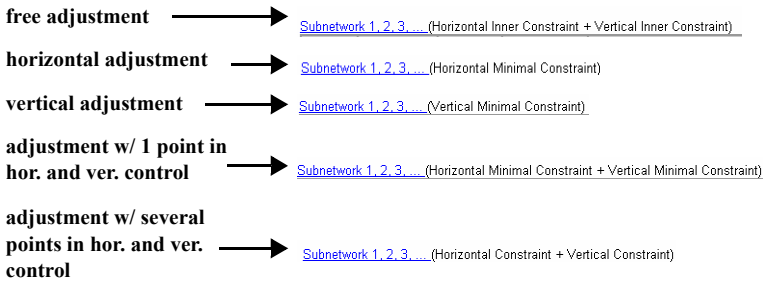

Figure 6-27. Types of Network Adjustments
- The type of the network adjustment, either free (inner) adjustment, horizontal only adjustment, vertical only adjustment, adjustment with one point in horizontal and vertical control, or adjustment with several points in horizontal and vertical control (Figure 6-27 on page 6-25).